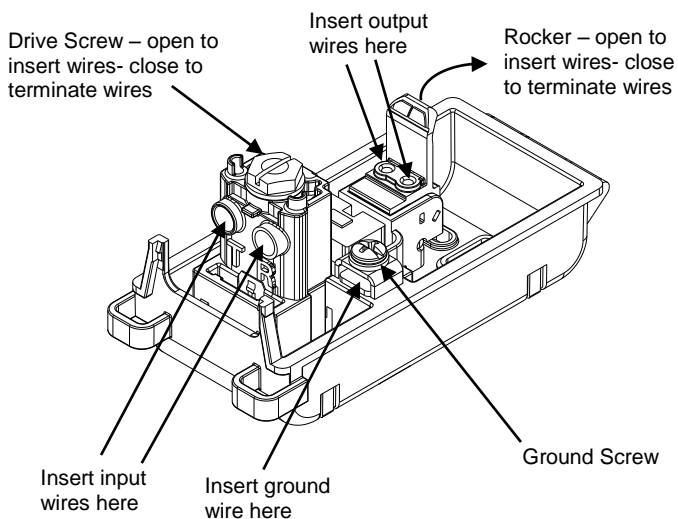

Figure 3
3. Unscrew Protector Module Driver Screw to the full upright position (See Figure 3).
5. Insert while holding the two input connection wires in place. Ensure wires are fully inserted beyond the IDC connector. Tighten the Drive Screw to the full down position (See Figure 3). **Pull on wires to ensure proper connection. Wires should remain securely in place.**
6. Lift rocker to the full up position (See Figure 3).
10. Assure the rocker is in the down position (See Figure 3). **Pull on wires to ensure proper connection. Wires should remain securely in place.**
11. Unscrew the ground screw and insert the ground wire into the grounding retainer post. Once inserted, tighten the ground screw to hold the ground wire firmly in place (See Figure 3). Be sure the other end is attached to an appropriate ground source.